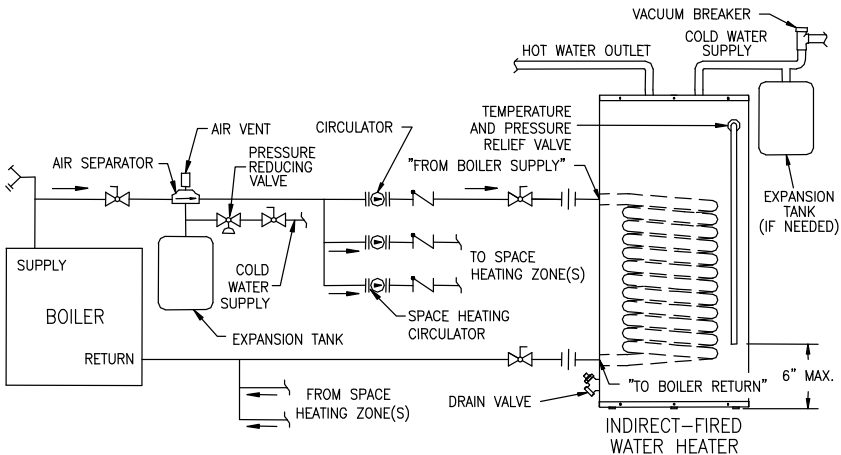

Figure 3 - Water Boiler Piping with Circulators
- For a space heating system that utilizes CIRCULATORS, refer to Figure 3. The indirect-fired water heater connection labeled "FROM BOILER SUPPLY" should be piped to the boiler supply piping. Mount the circulator making sure the flow arrow points toward the water heater. The use of shut-off valves and unions are recommended for future service convenience. The use of an air separator and vent is recommended to eliminate air in the system. Pipe and fittings between the boiler and indirect-fired water heater must be $\frac{3}{4}$ " diameter or larger.